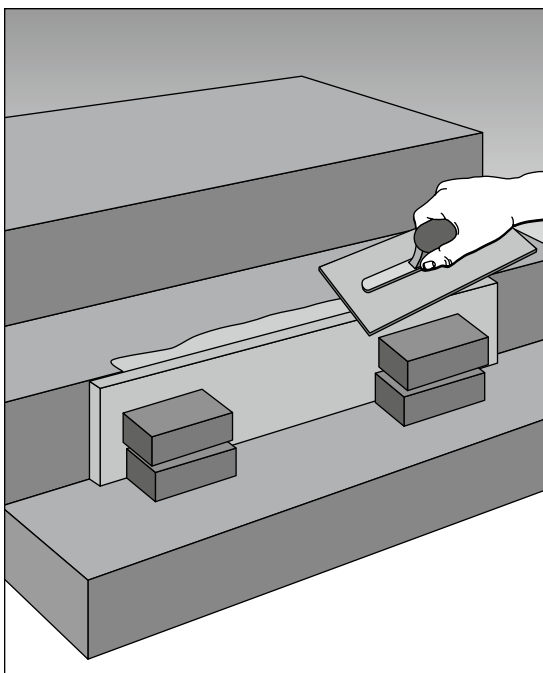

FIGURE 17-1:
- 6. Use several bricks to hold the form boards firmly in place. (See Figure 17-1.)**